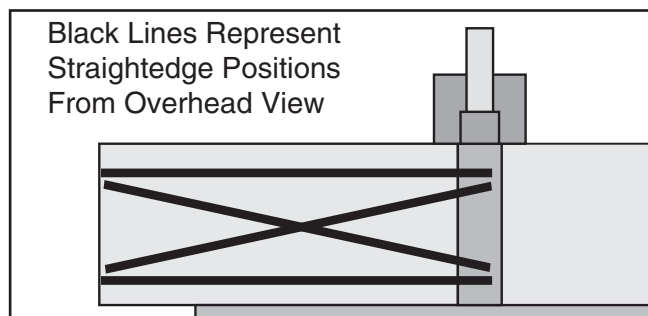

Figure 49. Straightedge positions for verifying if outfeed table is parallel with cutterhead.
6. Place straightedge in positions shown in **Figure 49**. In each position, straightedge should touch cutterhead and sit flat on outfeed table.